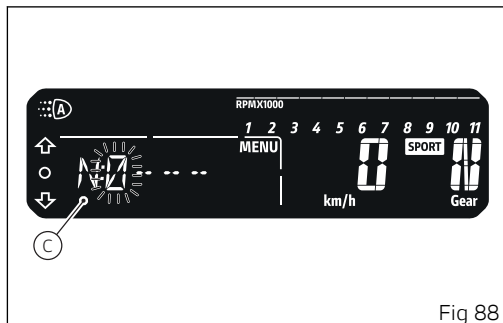

Fig 88
- The first digit (C Fig 88) flashes and the number can be changed from 0 to 9 using buttons (1) and (2).
- Press ENTER (3) to confirm and move on to the following digit.